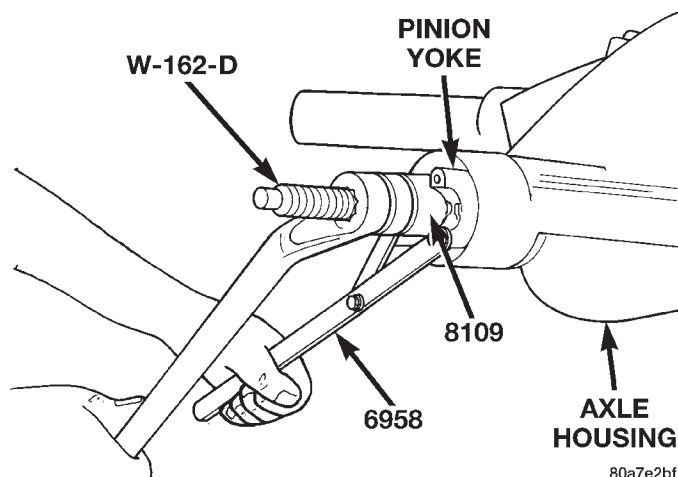

Fig. 21 Pinion Yoke Installation
(5) Install yoke, or pinion flange, with Installer W-162-D, Cup 8109, and holder 6958 (Fig. 21).